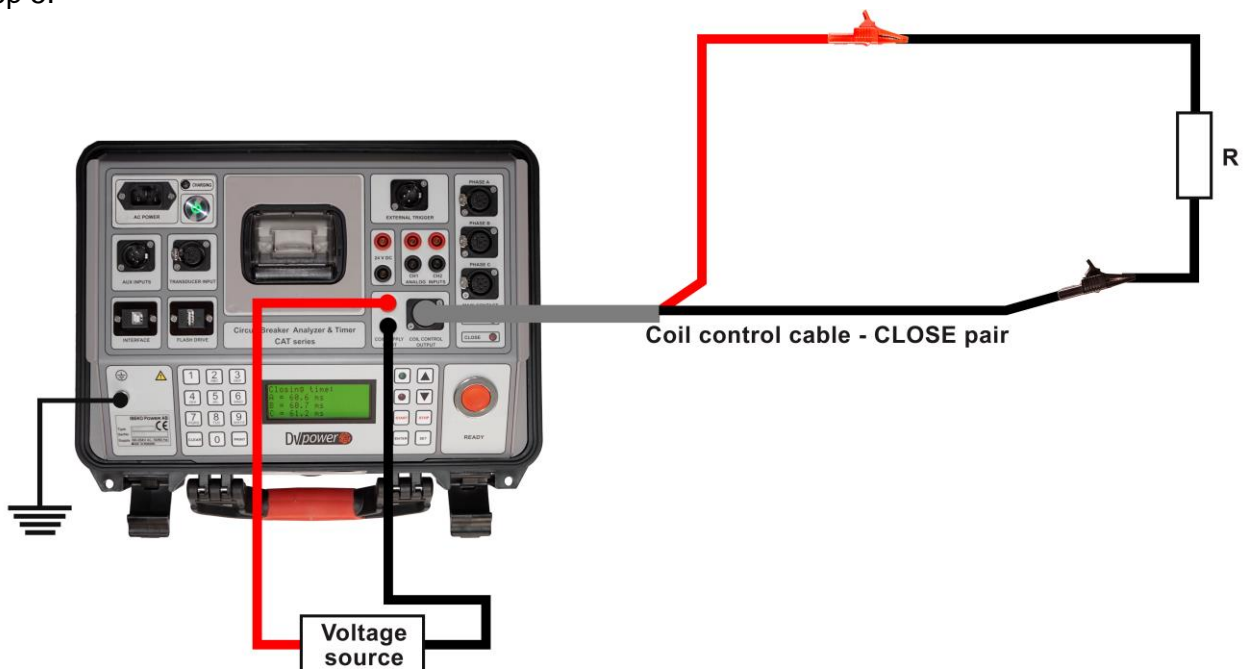

Figure 6-2: Coil Control test – Close pair of Coil Control Cable
3. Connect an external voltage source to the Coil supply input as shown in the **Figure 6-2**. Connect the Coil Control cable – CLOSE pair to the resistor as shown in the **Figure 6-2**. The resistance R of resistor used and voltage V should be chosen so the current in the circuit is limited within the range 1 A – 10 A.